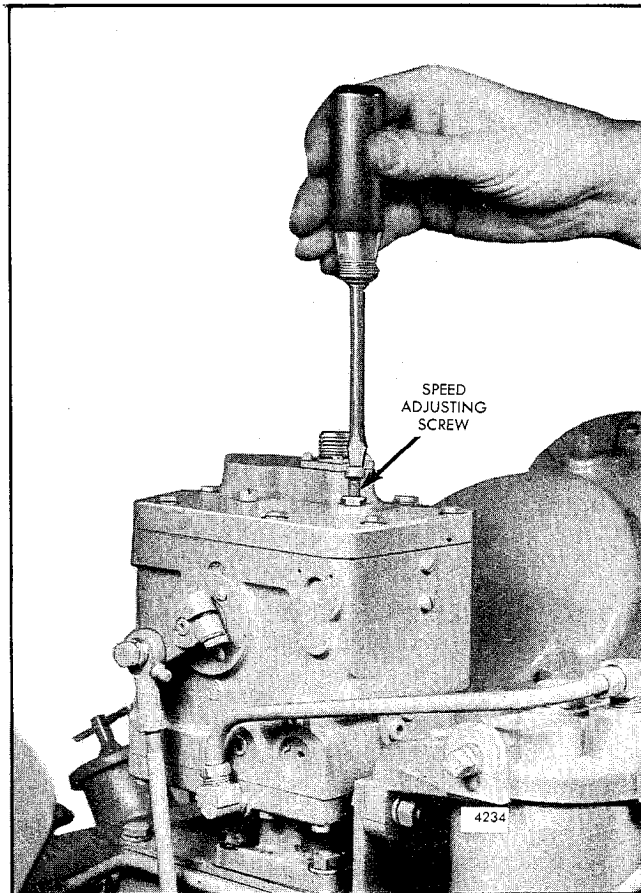

Fig. 5 - Adjusting Maximum No-Load Engine Speed
3. Turn the speed adjusting screw (Fig. 5) until the desired speed is obtained. Turning the screw counterclockwise will decrease the speed setting.